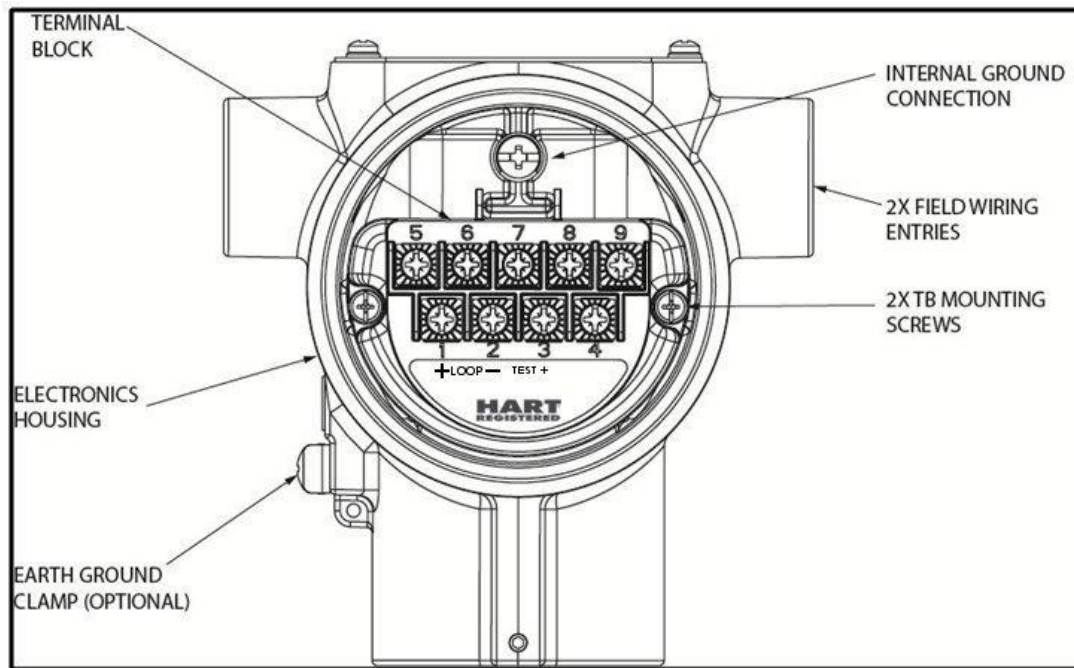

Figure 12 – Transmitter Terminal Board and Grounding Screw
Loop wiring is connected to the Transmitter by simply attaching the positive (+) and negative (–) loop wires to the positive (+) and negative (–) terminals on the Transmitter terminal block in the Electronics Housing shown in Figure 12. Connect the Loop Power wiring shield to earth ground only at the power supply end.
As shown in Figure 12, each Transmitter has an internal terminal to connect it to earth ground. Optionally, a ground terminal can be added to the outside of the Electronics Housing.
1. See Figure 12, above, for parts locations. Loosen the end cap lock using a 1.5 mm Allen wrench.
If your Transmitter includes the optional lightning protection, connect a wire from the Earth Ground Clamp (see Figure 12) to Earth Ground to make the protection effective. Use a size 8 AWG or (8.37mm²) bare or green covered wire for this connection.